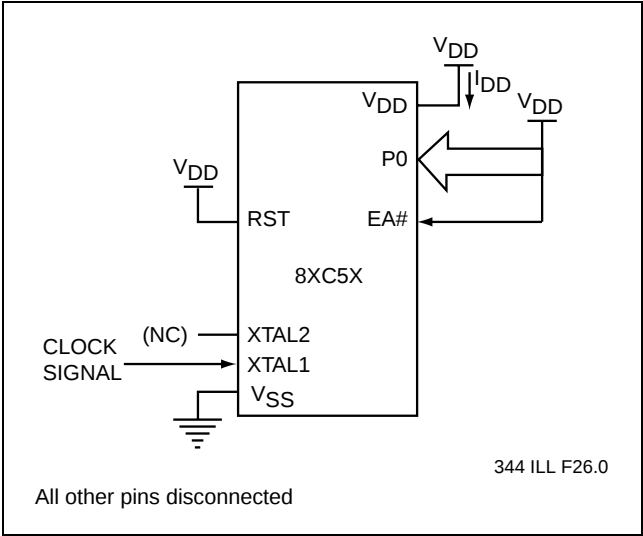

FIGURE 12-9: I_{DD} TEST CONDITION, ACTIVE MODE
6. See Figures 12-9, 12-10 and 12-11 and for test conditions. Minimum V_{DD} for Power Down is 2.7V.